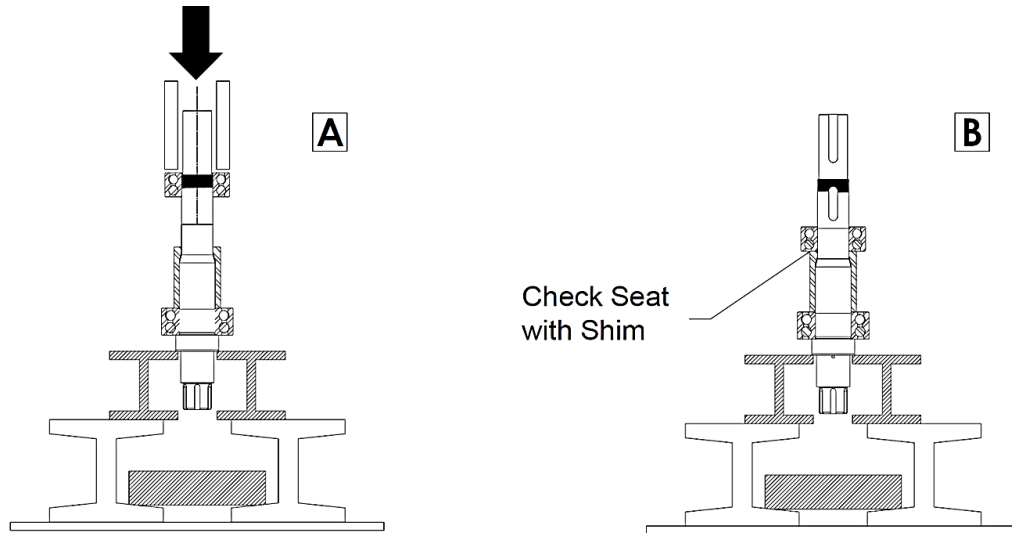

Figure 50: Pressing Rear Bearing onto Shaft
2) Apply a light coat of lubricant on the shaft. Open the new rear bearing and place it over the shaft above the bearing spacer (Figure 50, A). Using a sleeve that rests on the **bearing's inner race** and over the shaft, press the bearing on until it seats against the bearing spacer. Make sure the bearing is rested on the bearing spacer using a shim (Figure 50, B).